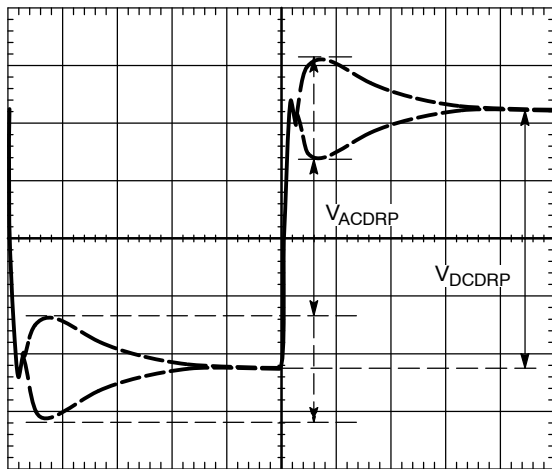

Figure 28. AC Load Line Waveform
- The resulting waveform will be similar to that shown in Figure 28. Use the horizontal cursors to measure V_{ACDRP} and V_{DCDRP} , as shown in Figure 28. Do not measure the undershoot or overshoot that occurs immediately after the step.